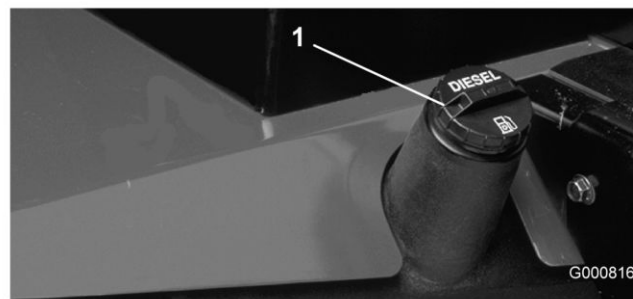

Figure 34
3. Remove cap from the fuel tank (Figure 34).